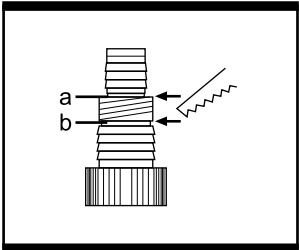

Fig. 1b
- b. When using a 38mm (1½") hose, cut off top of top section at position (b), connect discharge pipe with 38mm (1½") to hose connector and it is recommended to secure the discharge pipe with one hose clamp (no supplied). (See Fig. 1b, 1c)